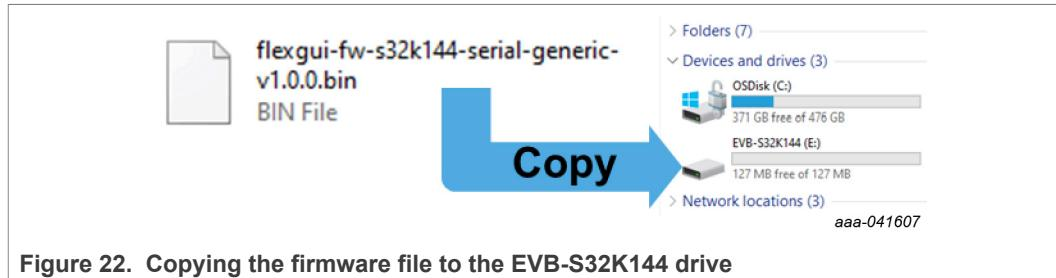

Figure 22. Copying the firmware file to the EVB-S32K144 drive
3. Wait until the PC has launched new drive 'EVB-S32K144' (Figure 22)
4. Copy the firmware file to that drive (Figure 22)